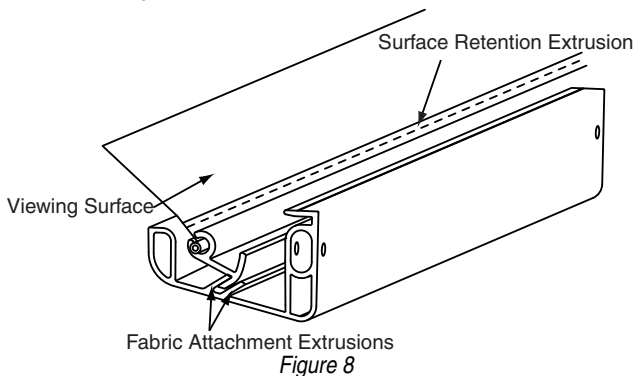

Figure 8
- ① Return frame onto clean surface, face down, and drape completed surface assembly over completed frame profile with rounded edge of surface retention extrusion visible.
- ② Insert any side of surface to notch #1 on corresponding side of frame extrusion (see Fig. 8).